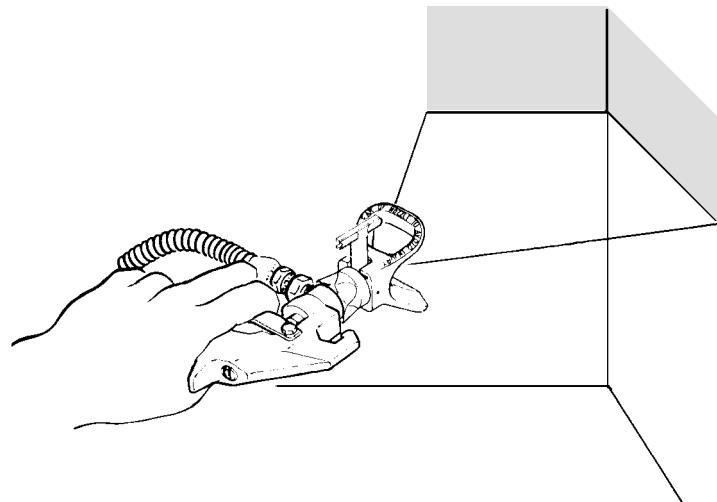

Fig 11
**For interior corners,** aim the gun toward the center of the corner to be sprayed. By dividing the spray pattern this way, the edges on both sides are sprayed evenly. See Fig 11.